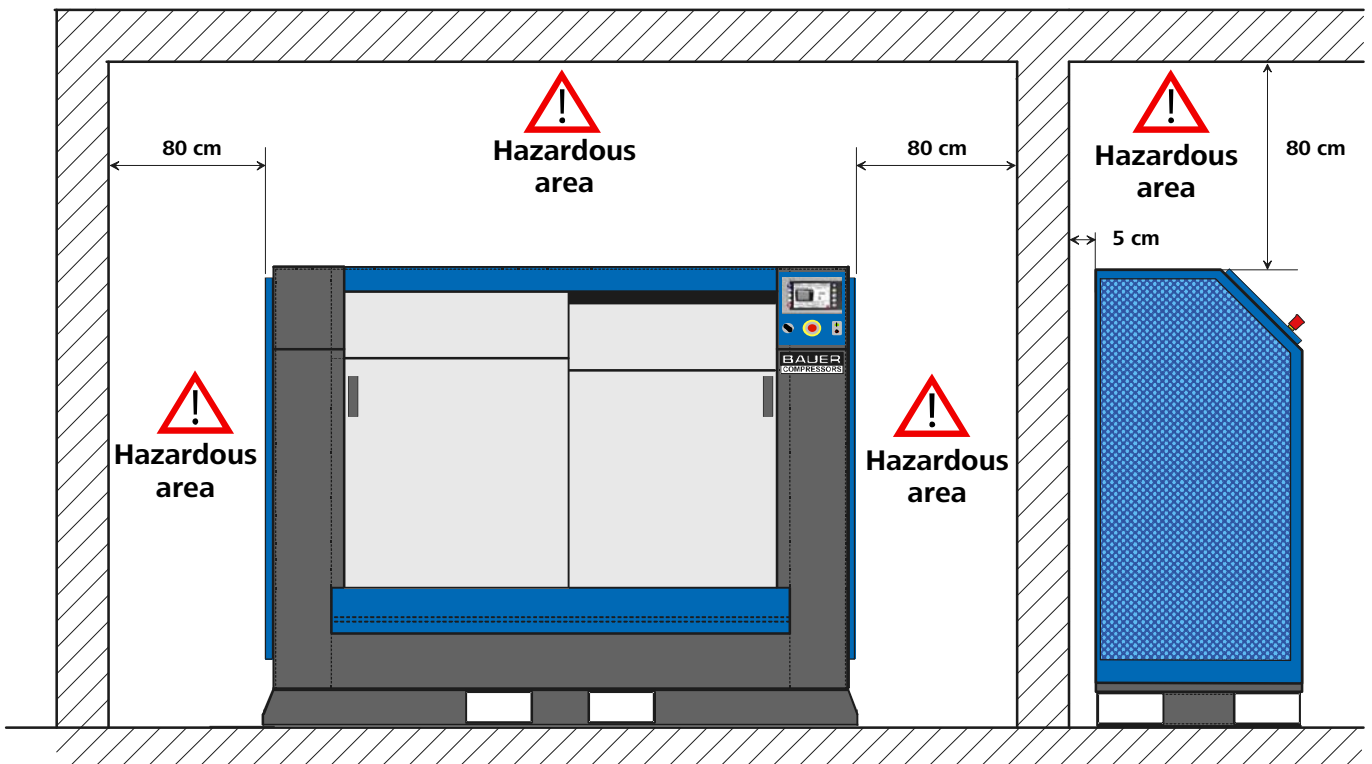

Fig. 26 Minimum distances and hazardous areas
- Leave an open space of at least 5 cm between the rear side of the machine and the wall. Refer to Fig. 26 and the installation plan provided in the annex.
- The space on the sides and above the machine (see Fig. 26) must be left vacant in order to allow compressed air to escape in case of explosions as well as for the practical purposes of maintenance.
- Ensure that the minimum distances indicated on the Fig. 26 are complied with.